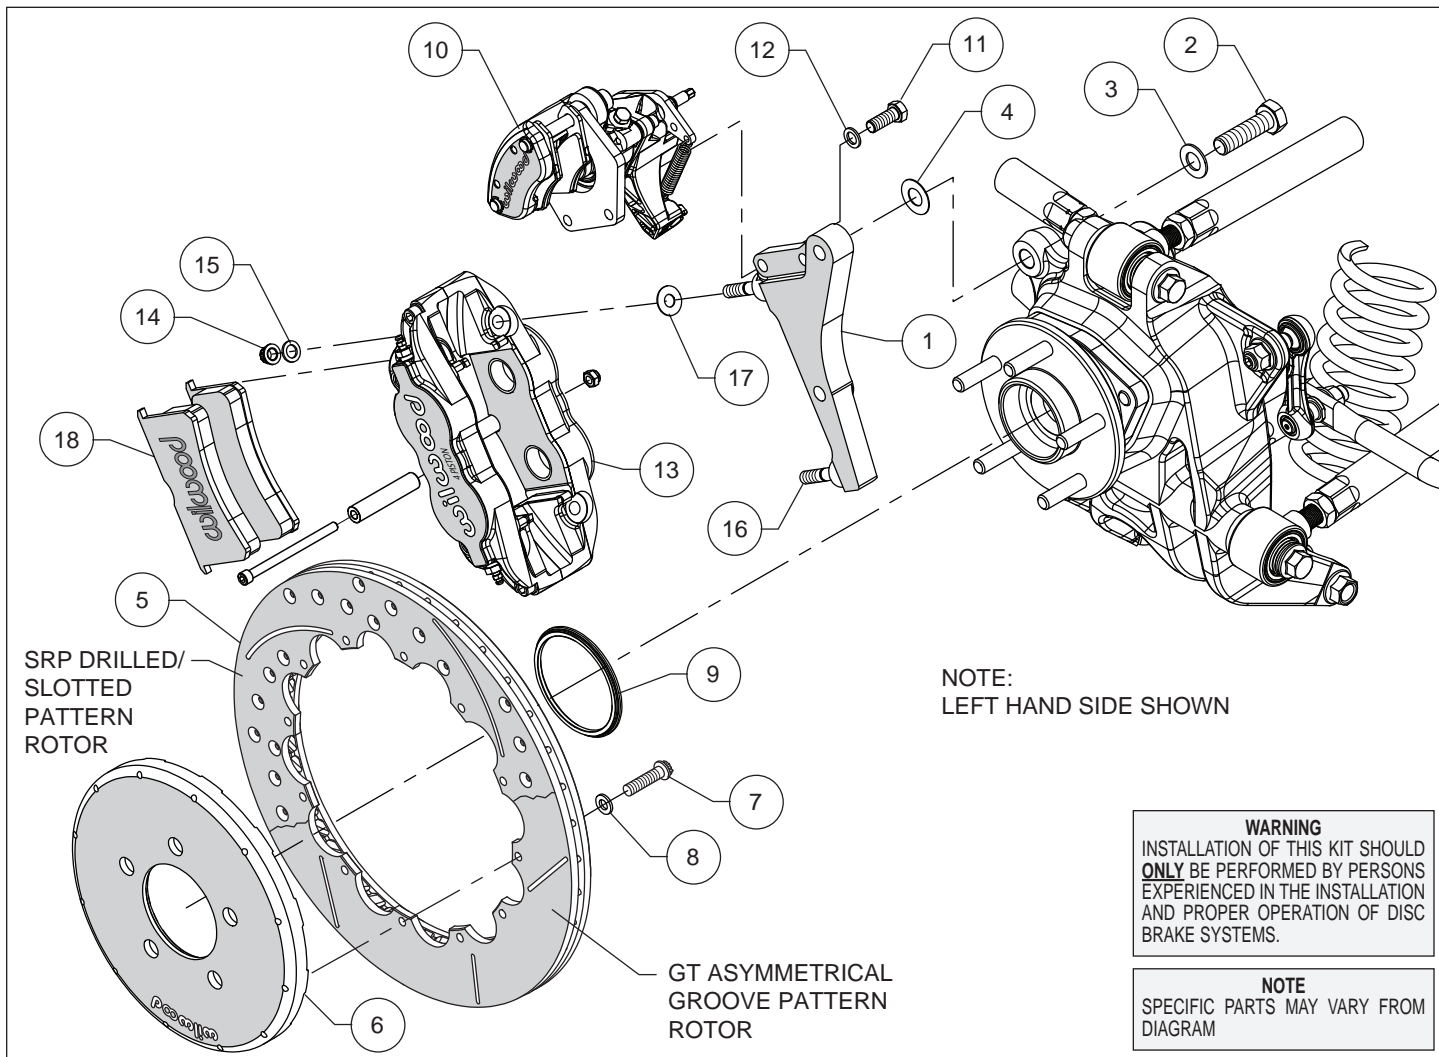
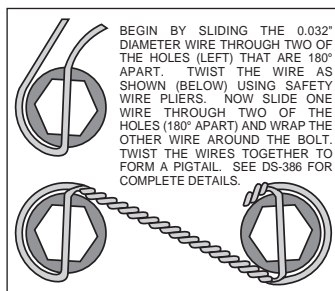

Figure 1. Typical Installation Configuration
Figure 3. Safety Wire Diagram
Assembly Instructions (numbers in parenthesis refer to the parts list and Figure 1 on the preceding pages):
- The caliper mount bracket (1) should initially be installed with clean, dry threads on the mounting bolts. Orient the bracket as shown in Figure 1, and Photo 1, and install using bolts (2) and washers (3). Initially place one .029" thick shim (4) on each bolt between the bracket and upright, Figure 1. Temporarily tighten the mounting bolts. **NOTE: The bracket must fit squarely against the mount bosses on the upright.** Inspect for interference from casting irregularities, machining ridges, burrs, etc. Later, after the caliper alignment has been checked, the mount bolts will be secured using red *Loctite*[®] 271.
- Orient the rotor (5) and the hat (6) as shown in Figure 1 and Photo 2. Attach rotor to hat using bolts (7) and washers (8). Using an alternating sequence, apply red *Loctite*[®] 271 to the threads, and torque to 155 in-lbs. For an added measure of security, the bolts may be safety wired using standard 0.032 inch diameter stainless steel safety wire as shown in Figure 3. Please refer to Wilwood's data sheet DS-386 (available at www.wilwood.com/Pdf/DataSheets/ds386.pdf) for complete safety wire installation instructions.
- Lubricate the caliper mounting studs (16) with lightweight oil. Initially place one .035" thick shims (17) on each stud as shown in Figure 1 and Photo 5. Mount the caliper (13) onto the bracket (1) using lock nuts (14) and washers (15), Figure 1. Temporarily tighten the lock nuts and view the rotor through the top opening of the caliper. The rotor should be centered in the caliper, Photo 6. If not, adjust by adding or subtracting shims (4) between the bracket and the mounting bosses. Always use the same amount of shims on each of the two mounting bolts. Once the caliper alignment is correct, remove the bracket mounting bolts (2) one at a time, apply red *Loctite*[®] 271 to the threads, and torque to 77 ft-lb.
- Orient the parking brake caliper (10), as shown in Figure 1 and Photo 10, and mount onto the top section of the caliper mounting bracket (1) using bolts (11) and washers (12), Figure 1. Apply red *Loctite*® 271 to bolt threads, and torque to 30 ft-lb.